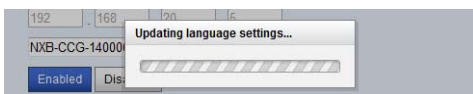

FIG. 12 Updating Language Settings
2. Click on the **Change Language** button to switch the Web Interface language. This may take several seconds (FIG. 12).